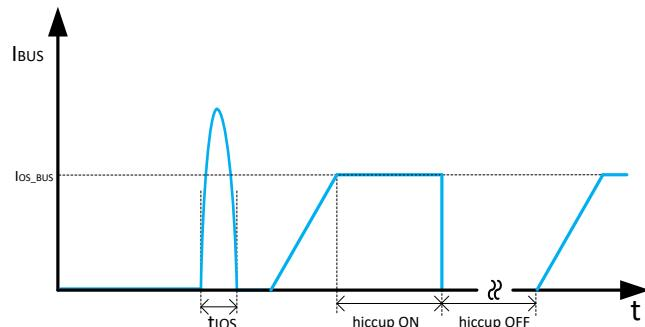

Figure 10-5. Response Time to BUS Short-Circuit
- The first condition is when a short circuit or overload is applied to the USB output when the device is powered up or enabled. There can be inrush current and once it triggers the approximate 8-A threshold, a fast turnoff circuit is activated to turn off the USB power switch within $t_{I_{OS_USB}}$ before the current limit control loop is able to respond (shown in Figure 10-5). After the fast turnoff is triggered, the USB power switch current-sense amplifier is over-driven during this time and momentarily disables the internal N-channel MOSFET to turn off USB port. The current-sense amplifier then recovers and ramps the output current with a soft start. If the USB port is still in overcurrent condition, the short circuit and overload hold the output near zero potential with respect to ground and the power switch ramps the output current to I_{OS_BUS} . If the overcurrent limit condition lasts longer than 4.1 ms, the corresponding USB channel enters hiccup mode with 524 ms of off-time and 4.1 ms of on-time.